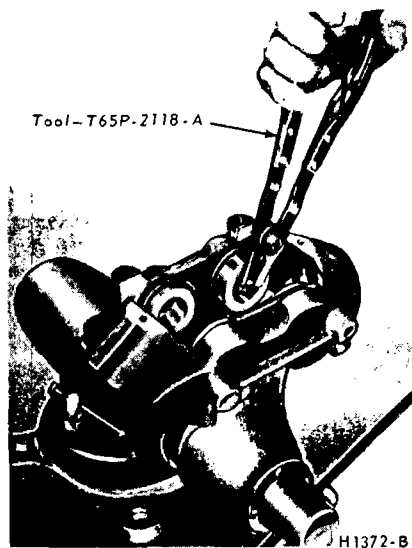

FIG. 26—Removing or Installing Pistons
Refer to Fig. 26.
1. Remove the attaching screws and insulator-bracket from the dash panel (Fig. 26).